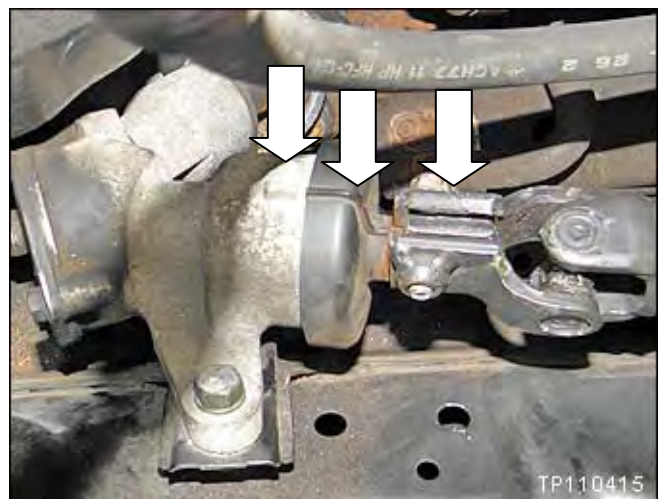

Figure SS5
**NOTE:** The marks shown in Figure SS5 should be aligned.
- Make sure shaft end at the steering gear assembly is aligned correctly (see Figure SS5 on page 44).